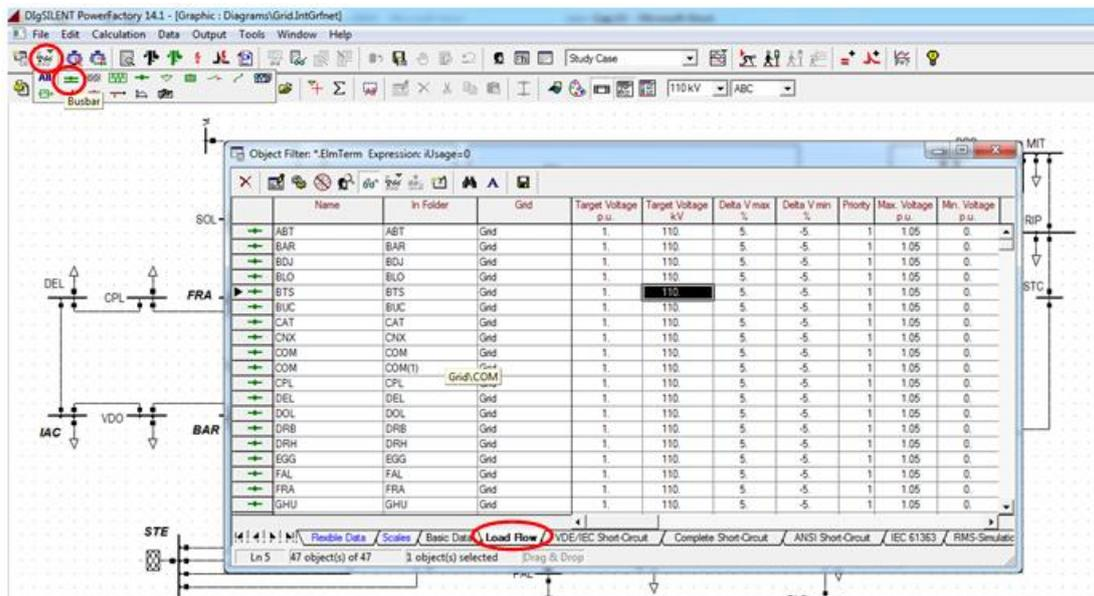

Fig. 33 - Changing data and accessing results in tabular form
For all network elements described above, it is possible to enter or change data in two ways. The most common is the use of properties windows, described above. However, DIGSI-PF allows the use of Excel-like spreadsheets, in which data can be copied, pasted and deleted from table cells. This feature is activated when clicking on the **Edit Objects Relevant for Calculation** button from the toolbar (Fig. 33).
**Table 1** – Branch data for the assignment electrical system in Fig. 33
**Table 2** – Bus data for the system in Fig. 33